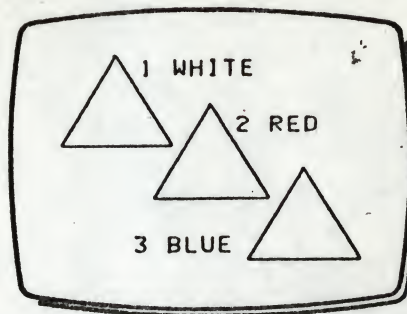

Fig 2
- 2 Draw a triangle with WHITE lines, (1) in Fig 2.